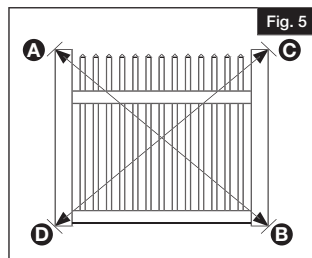

Fig. 5
Ensure gate is square. Measure diagonally from top of left corner rail (A) to bottom of right corner rail (B) and note the length. Then, measure diagonally from top of right corner rail (C) to bottom of left corner rail (D). Note the length. Make sure both measurements are the same before installing screws into uprights (Fig. 5).